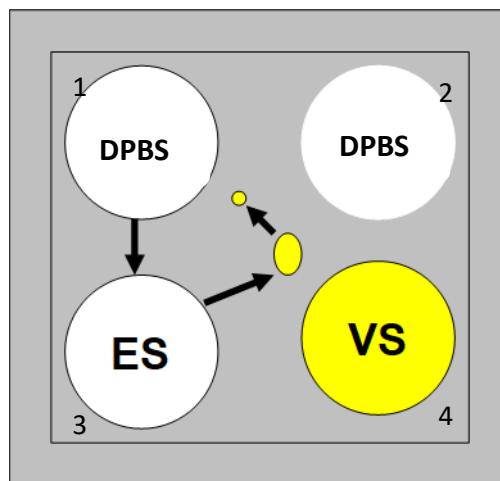

Figure 1. 4 well dish with the respective solutions to be used during vitrification
- Using a 4-well dish, add the following solution to the wells as described below (figure 1):
- Well 3: 500 µL of Dehydration solution (ES)
- 4) Move embryo to well 3 (show as ES in figure 1) and leave it for 1 minute